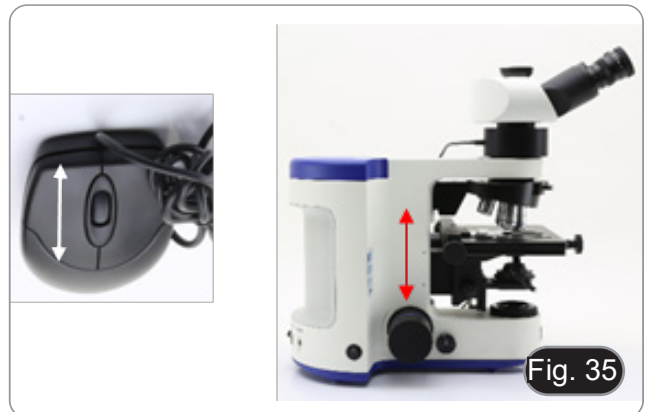

Fig. 35
- Focus motor is activated through the mouse wheel. Front or rear rotation of the mouse wheel raises or lowers the stage. (Fig. 35)